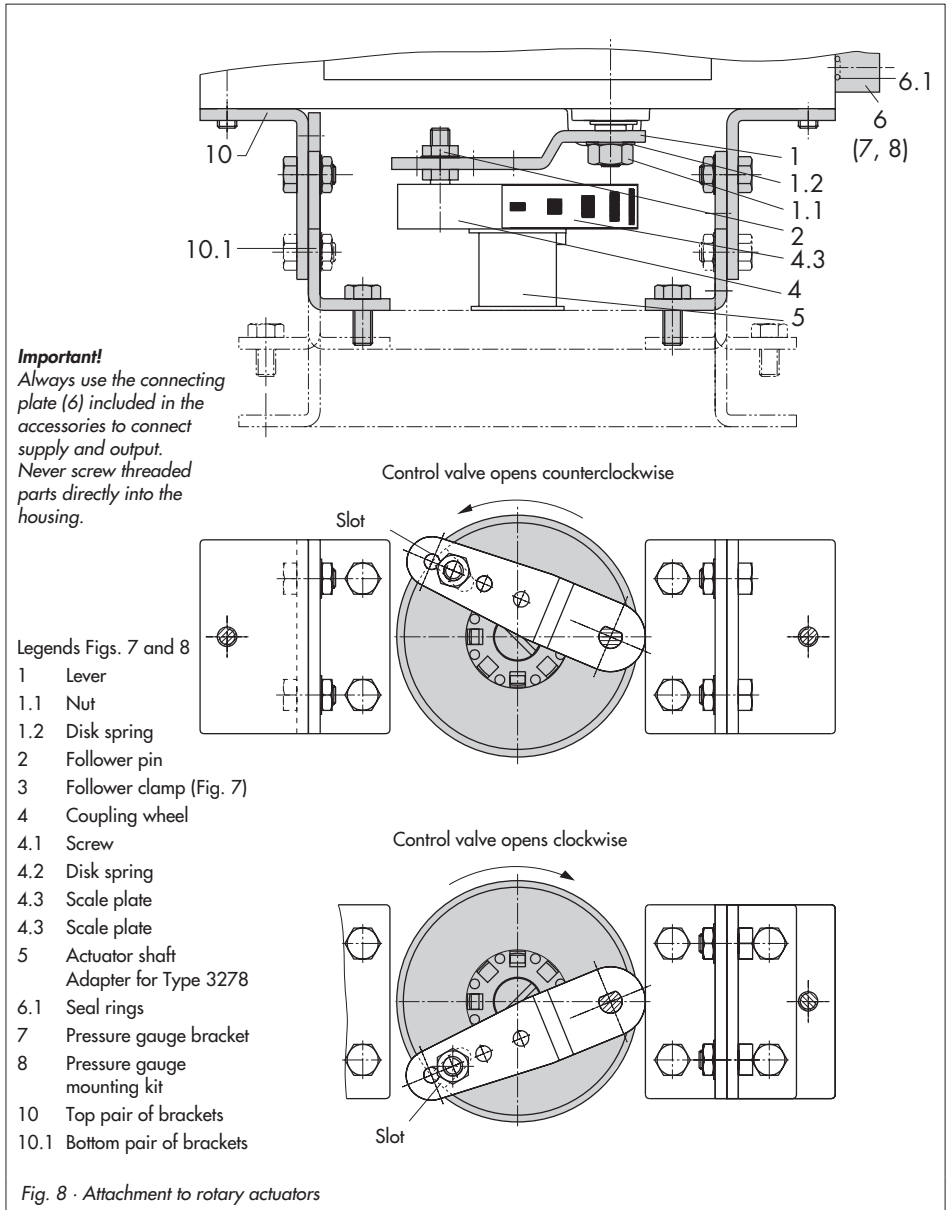

Fig. 8 · Attachment to rotary actuators
1. Place follower clamp (3) on the slotted actuator shaft or the adapter (5).
2. Place coupling wheel (4) with flat side facing the actuator on the follower clamp (3). Refer to Fig. 8 to align slot with the direction of rotation when the valve is in its closed position.
4. Screw the bottom pair of brackets (10.1) with the bends pointing either to the inside or to the outside (depending on the actuator size) to the actuator case. Position top pair of brackets (10) and screw tight.
5. Mount connecting plate (6) or pressure gauge bracket (7) with pressure gauges to the positioner, making sure both O-rings are seated properly. For **double-acting**, springless rotary actuators, a reversing amplifier is required to attach the positioner to the actuator, see section 2.5.
6. Unscrew the standard follower pin (2) from the positioner's lever **M** (1). Use the metal follower pin (Ø5) included in the mounting kit and screw tight into the bore for pin position **90°**.
7. Place positioner on the top pair of brackets (10) and screw tight. Considering the actuator's direction of rotation, adjust lever (1) so that it engages in the slot of the coupling wheel (4) with its follower pin (see Fig. 8). It must be guaranteed that the lever (1) is parallel to the long side of the positioner when the actuator is at half its angle of rotation.